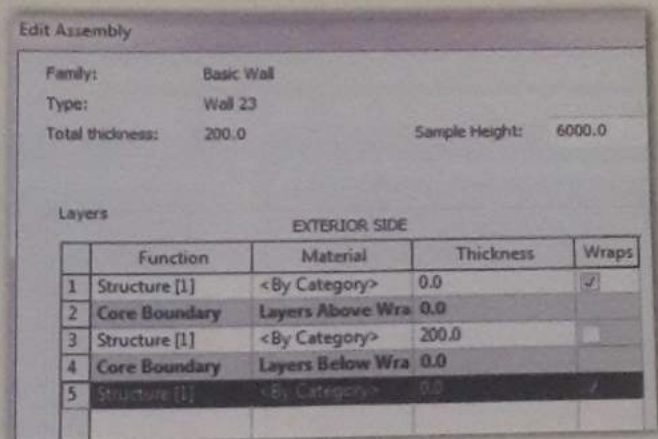

Figure 39: Wall Layers.
7. Using up and down adjust the position of the layers (Figure 39).